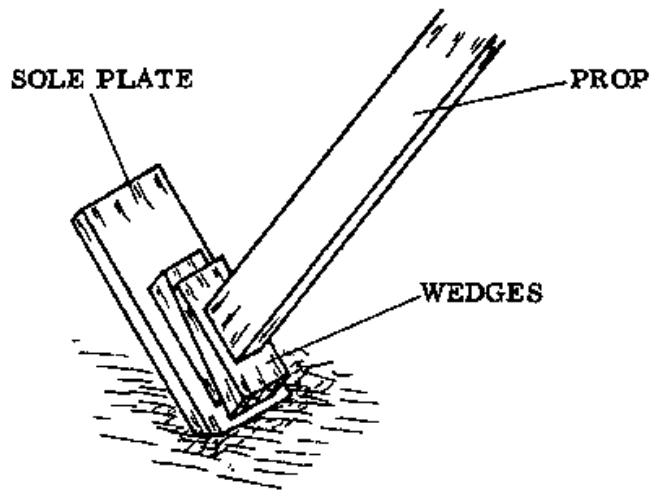

Fig. 1
- Make sure that the feet of the props will not slip. In soft soil, they should be supported by sole plates set in the ground, at right angles to the props (Fig. 1).